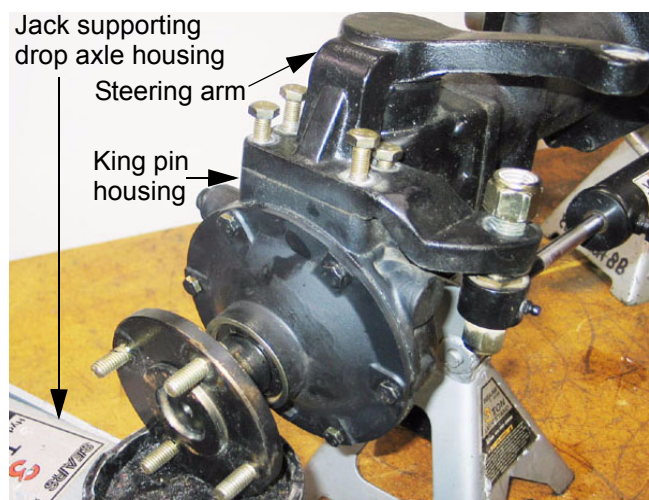

Figure 7.4
- 7.4. Support the drop axle housing, and remove the four bolts that hold the steering arm to the king pin housing using a 17 mm wrench. See Figure 7.4.